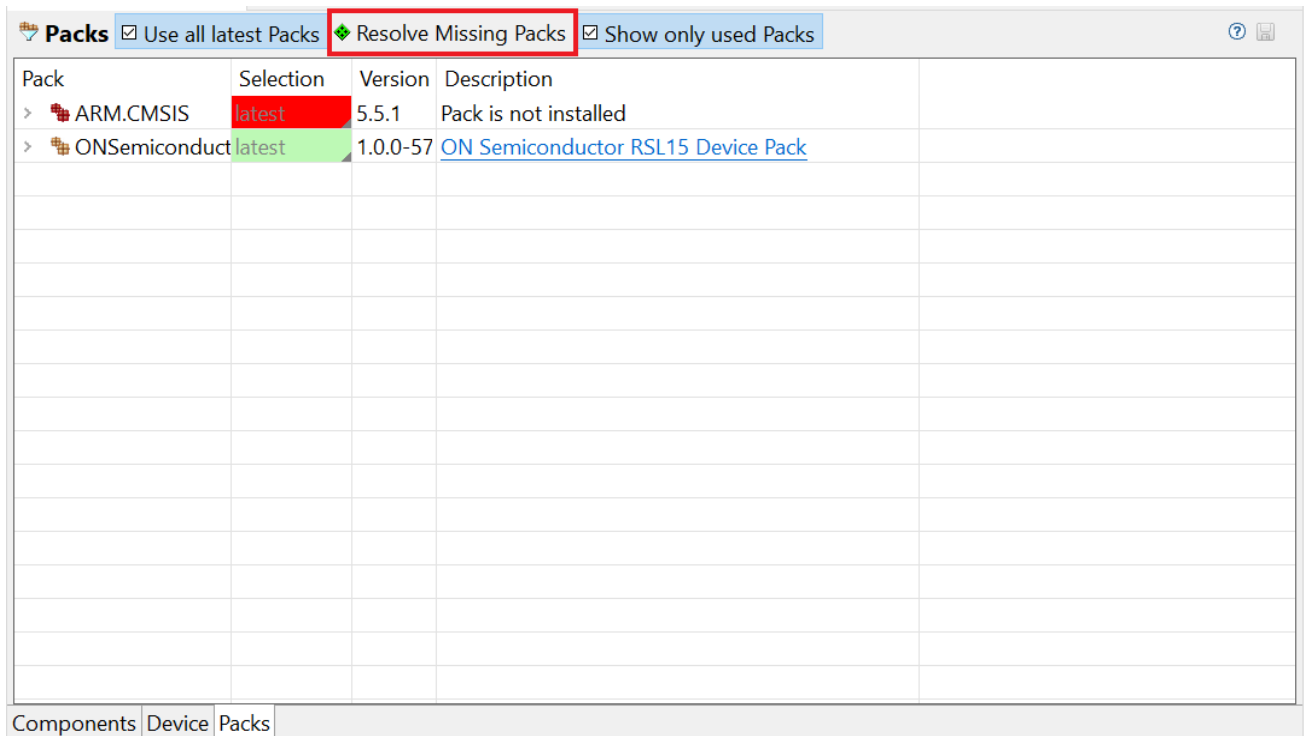

Figure 47. Resolve Missing Packs Icon
- Open the *.rteconfig file; in the **Packs** tab, select the **Resolve Missing Packs** button (see the "Resolve Missing Packs Icon" figure (Figure 47)).